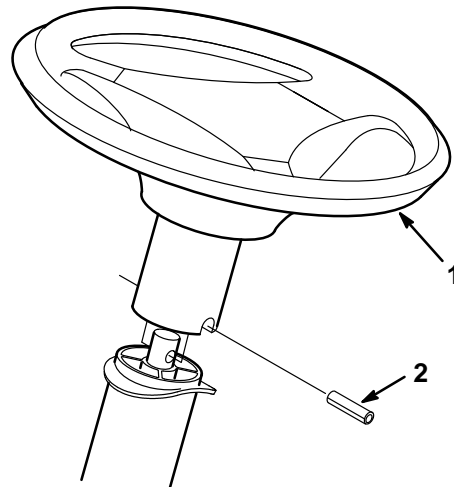

Figure 2
2. Slide the steering wheel over shaft. Line up the hole in the steering wheel with the hole in the shaft (Fig. 2). From the seat you should be able to read the brand logo on the steering wheel.
4. Using a hammer, drive the spirol pin in until it is flush with the outside of the steering wheel (Fig. 2).